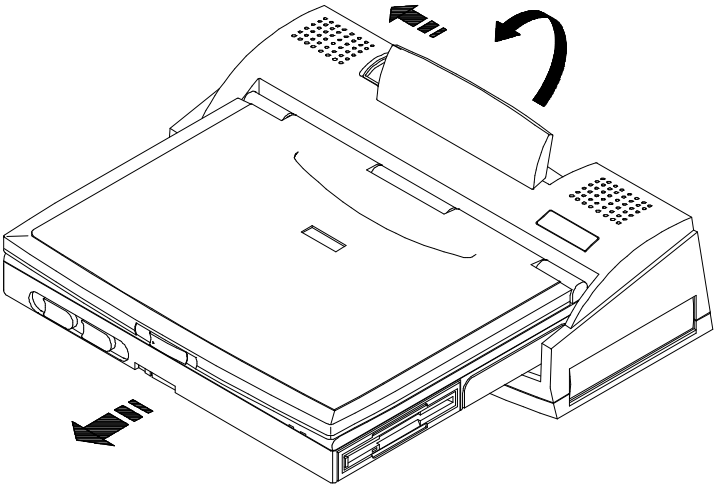

Figure 6-14: Removing the Notebook from the Port Replicator
2. Slide the Release latch (to the left) in the direction of the arrow shown in **Figure 6-14**. You should be able to pivot the Release lever up.